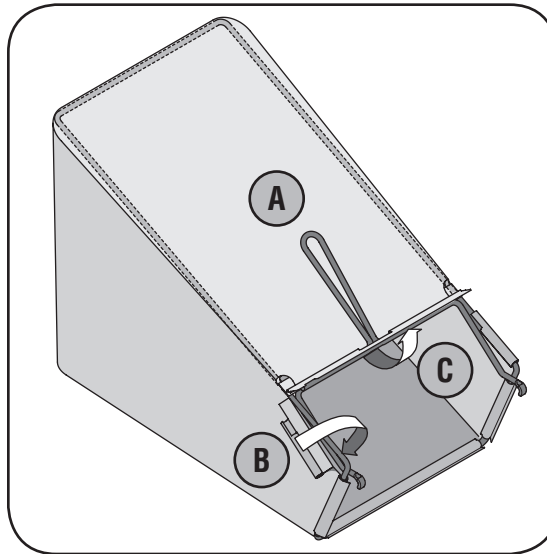

Figure 3-5: Assemble the grass catcher (if needed)
- b. Slip plastic channel of grass bag over hooks on the frame. See Figure 3-5. All the plastic channels except center top of bag attach from outside of bag.